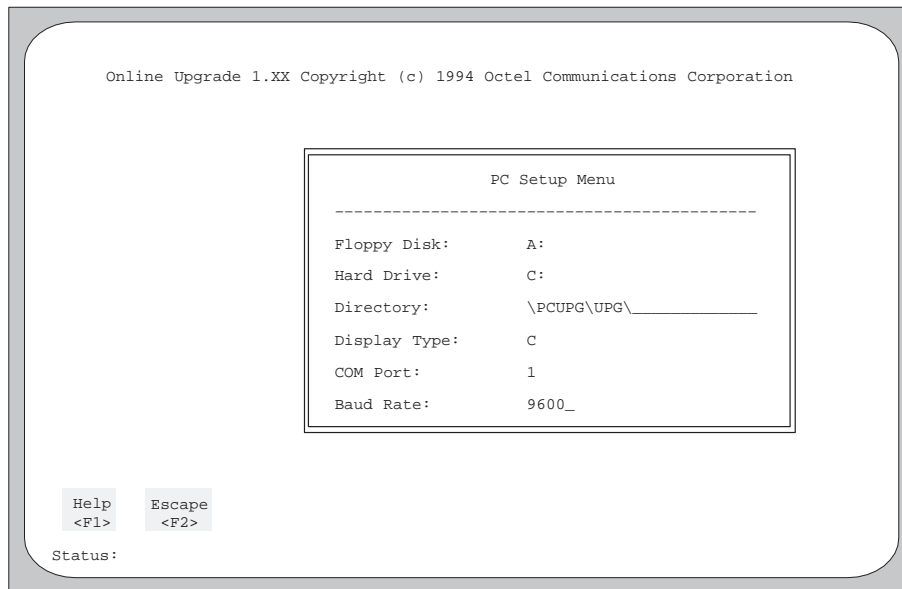

Figure 13-6. Example of PC Configuration Screen.
1. From the Online Upgrade Main Menu, select the Setup Menu option, then press **Enter**. A screen similar to Figure 13-6 appears.
2. Change the setup values, as necessary, so that they match those shown in Figure 13-6. Press **F1** for details about each field.